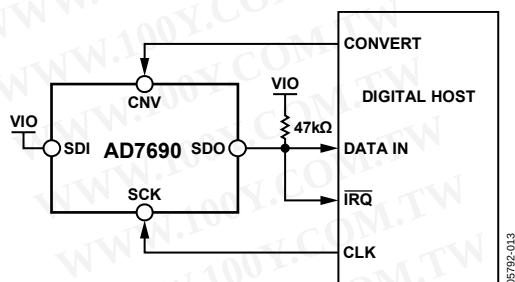
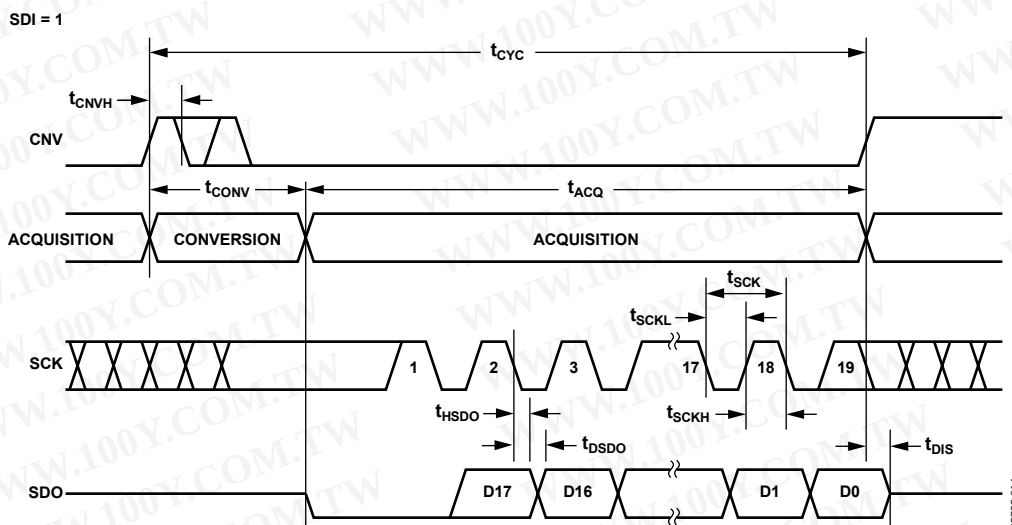

Figure 36. 3-Wire $\overline{\text{CS}}$ Mode with Busy Indicator Connection Diagram (SDI High)
Figure 37. 3-Wire $\overline{\text{CS}}$ Mode with Busy Indicator Serial Interface Timing (SDI High)
- In $\overline{\text{CS}}$ mode if CNV or SDI is low when the ADC conversion ends (see Figure 37 and Figure 41).
The connection diagram is shown in Figure 36, and the corresponding timing is given in Figure 37.